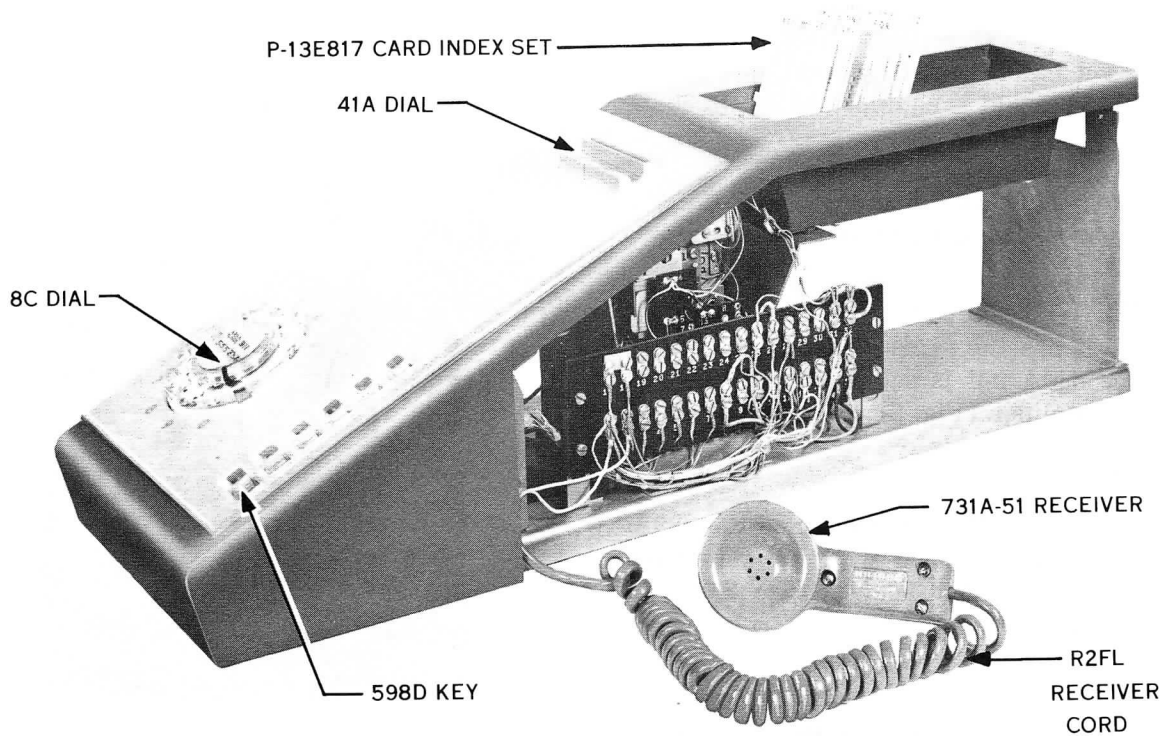

Fig. 6 — 689D Subscriber Set
**2.06** This set (Fig. 6) is the same as the 689A except it is equipped with an automatic card dialer and card set holder. (See 2.08 for ringer modification.)